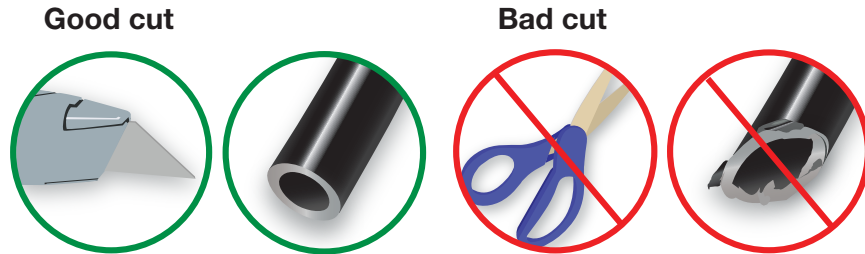

fig. 15
2. Make clean, square cuts with a razor blade or hose cutter (See Fig. 15 in the Cutting Air Lines section). Do not use scissors or wire cutters.
Use a sharp knife or a hose cutter and make clean, square cuts (Fig. 15). Do not use scissors or wire cutters because these tools will deform the air line. Do not cut the lines at an angle. The minimum bend radius for 1/4" air line is 1" (25mm). Air lines are to be installed straight into fittings. Inspect the air line for scratches that run lengthwise. Contact Air Lift customer service if the air line is damaged.